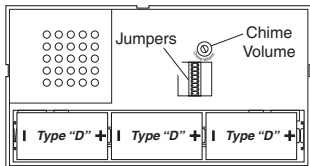

Figure 3 - Inside Chime
3. **Install 3 alkaline "D" batteries.** Make sure batteries are oriented properly (see Figure 3).
5. Adjust volume control. Adjust volume control to desired volume (see Figure 3).
- Replace batteries (see Figure 3).